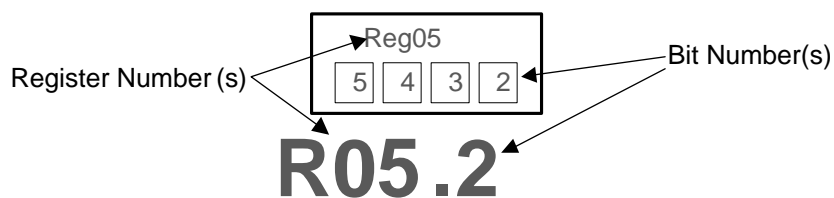

Figure 39. CDCM6208 Register Reference Format
Figure 39 shows the method this document employs to refer to an individual register bit or a grouping of register bits. If a drawing or text references an individual bit, the format is to specify the register number first and the bit number second. The CDCM6208 contains 21 registers that are 16 bits wide. The register addresses and the bit positions both begin with the number zero (0). A period separates the register address and bit address. The first bit in the register file is address 'R0.0' meaning that it is located in Register 0 and is bit position 0. The last bit in the register file is address R31.15 referring to the 16th bit of register address 31 (the 32nd register in the device).